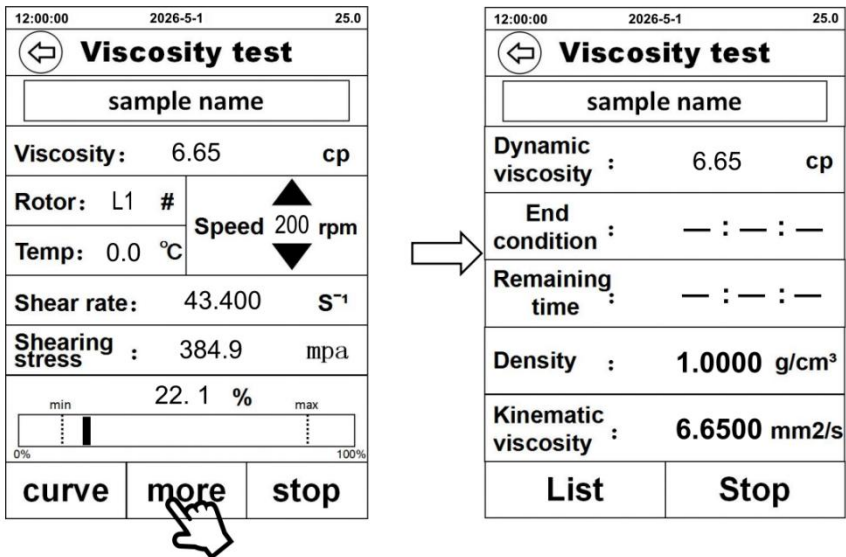

Fig. 10
5) More parameters: Click "More" during testing to view: dynamic viscosity, end condition, remaining time, density, kinematic viscosity(Fig.10).